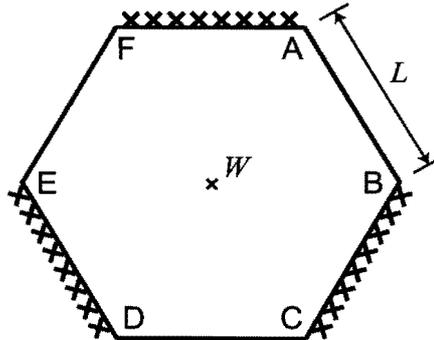

Figure 3
- * 3. A plate in the form of a regular hexagon is shown in plan view in Figure 3. Edges BC , DE and FA are fully built-in whilst AB , CD and EF are free. The fully plastic moment of resistance per unit length is m for all yield lines.